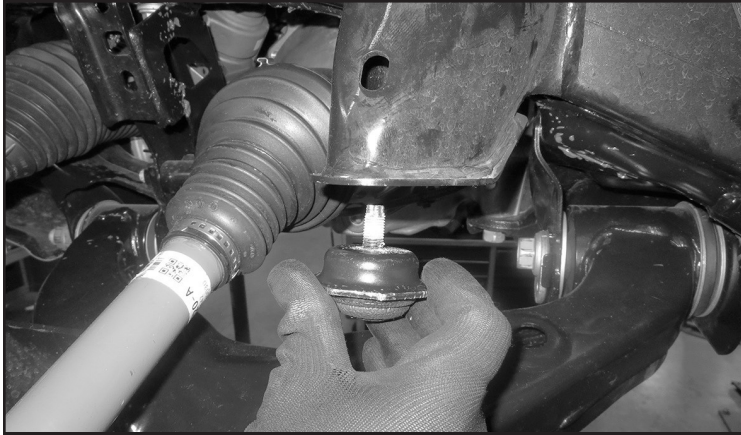

**FIGURE 8 - STEP 8**
8. Remove the lower strut bolt and upper strut nuts, then remove the factory strut from the truck. **SEE FIGURE 8**